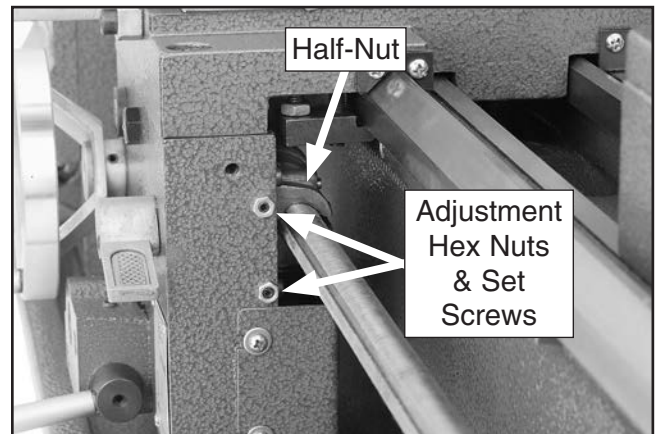

Figure 85. Half-nut adjustment components.
3. Loosen the two adjustment hex nuts shown in **Figure 85**, then adjust the set screws in small increments.